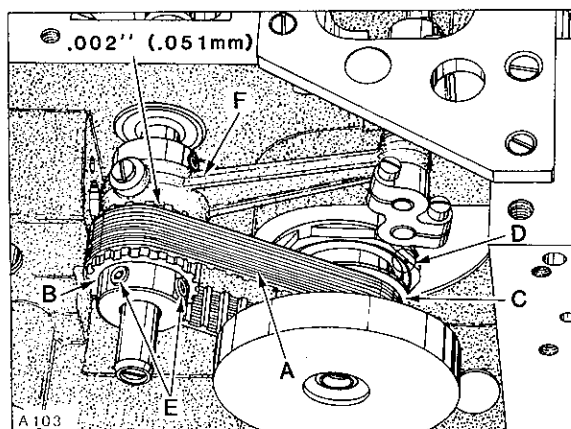

Fig. 4
NOTE: End cover has been removed for clarity in Figure 4, but MUST BE IN POSITION WHILE MAKING THE FOLLOWING ADJUSTMENTS.
Looper drive belt (A, Fig. 4) has proper tension if, when turning handwheel in operating direction to position looper in the center of its (right to left) travel ... there is no noticeable (right to left) play in the looper mechanism. There should be approximately 1/8 inch (3.2mm) deflection in looper drive belt when pressing firmly with thumb, midway between sprockets (B and C). Adjustment can be made by loosening two screws (A, Fig. 5) and turn looper module (D, Fig. 4) counterclockwise to tighten belt or clockwise to loosen, as viewed in Figure 4. Retighten screws (A, Fig. 5).
Rotate handwheel in REVERSE direction until pin in looper holder again makes contact with gauge plate and note the reading on the gauge. A variation of (1) graduation on the scale is permissible. If the reading is above "0", loosen screws (E, Fig. 4) and turn rear looper drive sprocket (B) towards the operator (clockwise as viewed in Figure 4). If the reading is below "0", turn sprocket away from operator (counterclockwise as viewed in Figure 4). Temporarily snug screws.
Rotate handwheel in OPERATING direction until pin in looper holder contacts gauge plate and note the reading on scale. If the reading is above "0", loosen screws (E) and turn sprocket (B) away from operator (counterclockwise as viewed in Figure 4). If the reading is below "0", turn sprocket towards the operator (clockwise as viewed in Figure 4). Temporarily snug screws.
side of RIGHT needle and check the distance from the eye of needle to the bottom of looper blade. If the distance was greater when handwheel was turned in operating direction, as shown in Sketch B, loosen screws (E, Fig. 4) and turn rear looper drive sprocket (B) away from operator
(counterclockwise as viewed in Figure 4). If the distance was greater when handwheel was turned in reverse direction, as viewed in Sketch C, turn sprocket towards the operator (clockwise as shown in Figure 4). Temporarily snug screws. Continue to check and adjust in both OPERATING and REVERSE
directions until the distance from the eye of the right needle to the bottom of looper blade is the same in either direction, as shown in Sketch D. Before tightening screws (E, Fig. 4) securely, be sure to have .002 inch (.051mm) clearance between sprocket (B) and needle guard drive connecting rod (F).